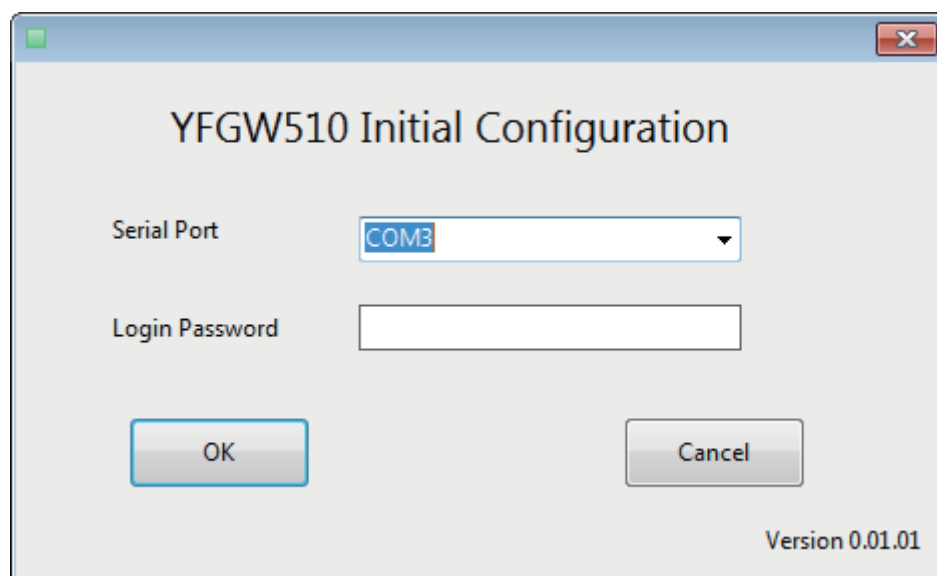

Figure 3-1 Log-in window
The ACT LED starts blinking in red and the log-in window of Figure 3-1 appears again. Log in with the maintenance password.
- The log-in window shown in Figure 3-1 will appear again. Click the [×] button in the upper right corner of the window to exit the Setup Tool.